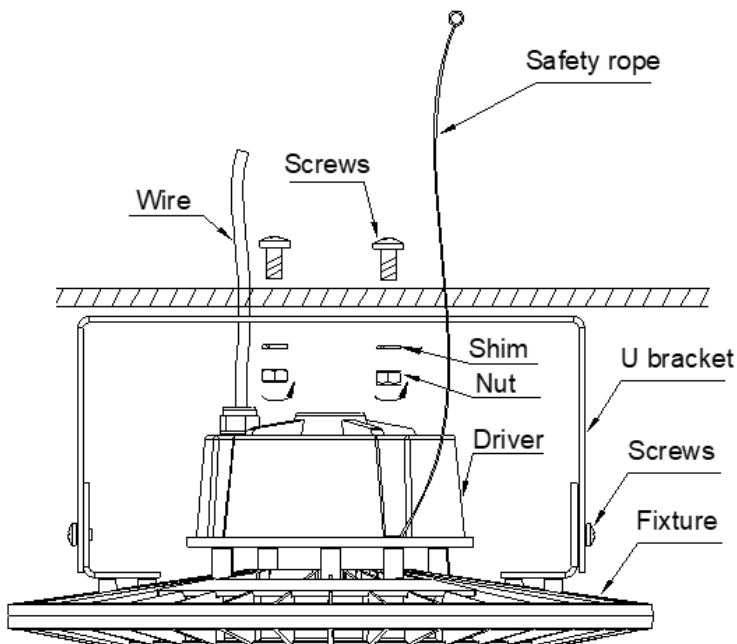

Fig.1
1. **U-BRACKET MOUNTING:** Follow mounting directions as in Fig. 1